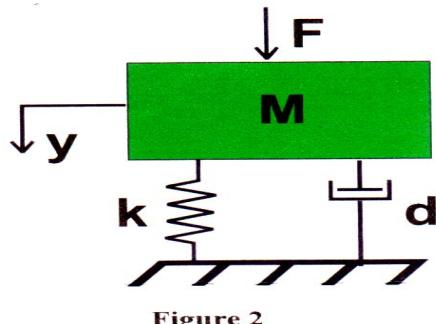

Figure 2
- Q7) a)** For the system in Figure 2, assume M =mass=1kg, k =stiffness=2 N/m and d =damping=0.5 Ns/m. Also, F =force input in N and y =displacement output in m. [10]